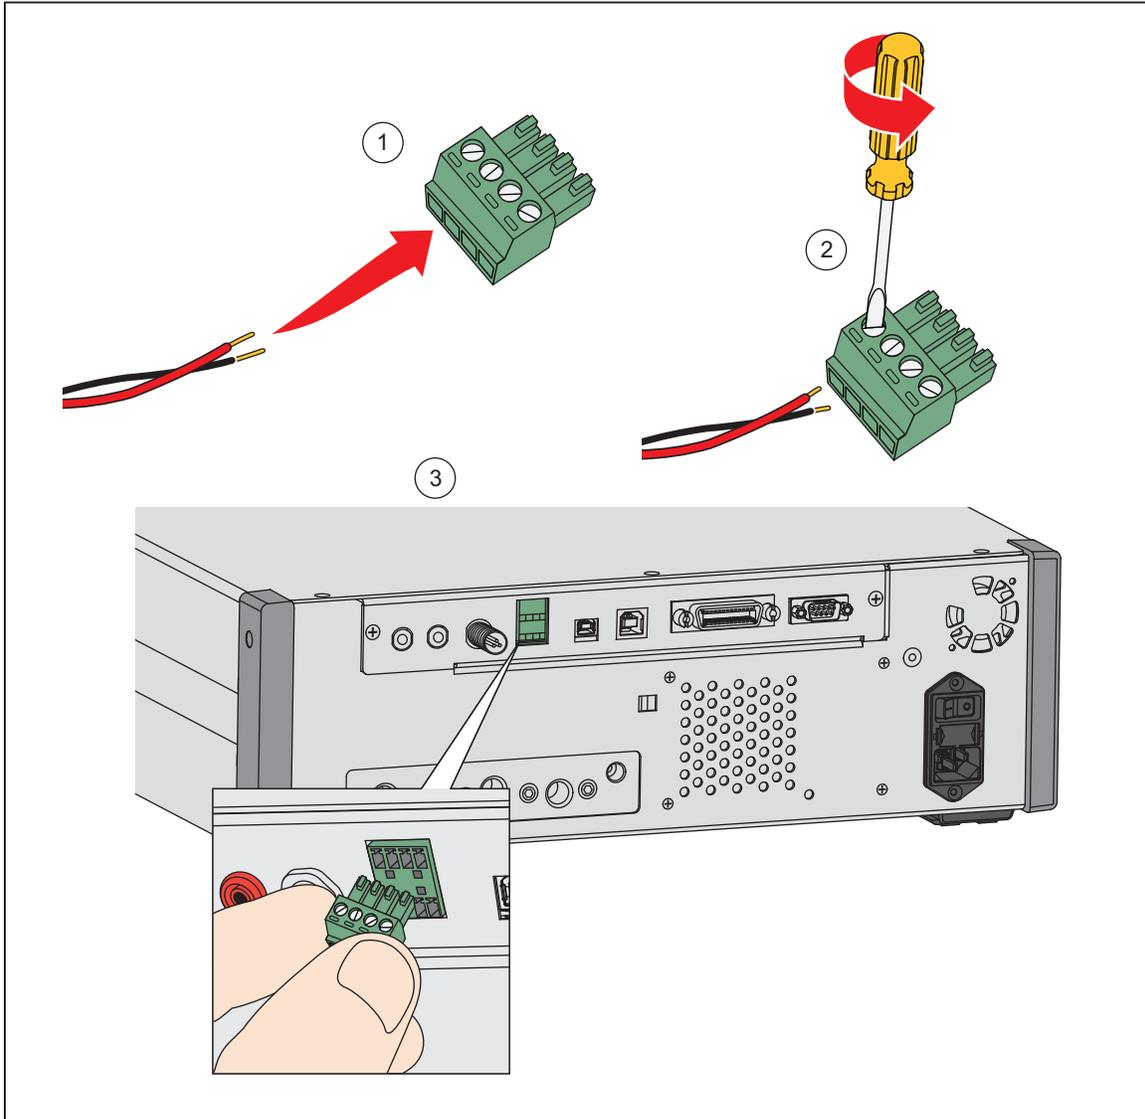

Figure 20. Driver Connections
The CPS uses DRV1, DRV2, and DRV3 on the Product. For more information about the CPS, see *Contamination Prevention System (CPS)*. For typical connections, see Figure 20.
- Electrical Connection Kit (part number 4579115) contains the necessary electrical system connections and wires shown in Figure 20.